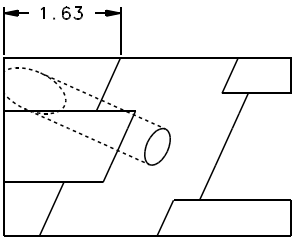

Figure 31
- Figure 31 shows the location of the 1.63 dimension.